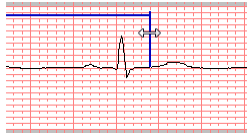

Figure 381 – Editing a defined Marker
2. Press and hold down the left mouse button and move the cursor to the new location (see Figure 381). The measurement border will move along with the cursor.